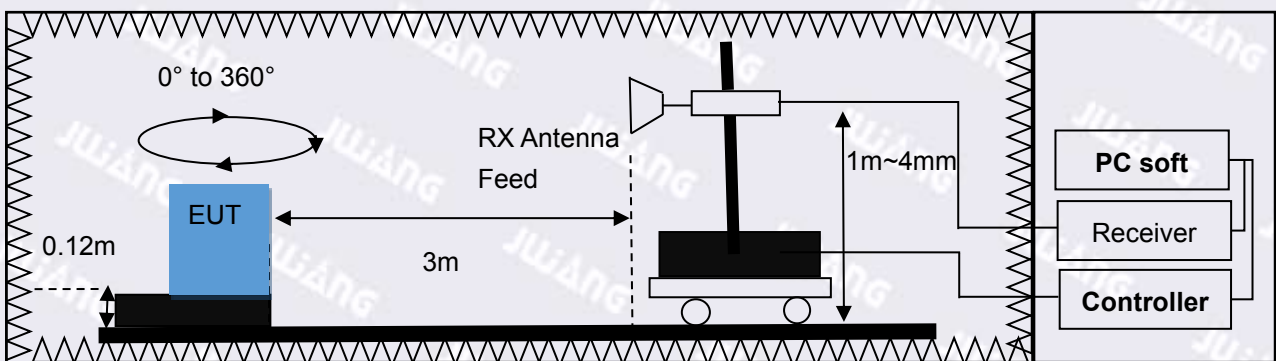
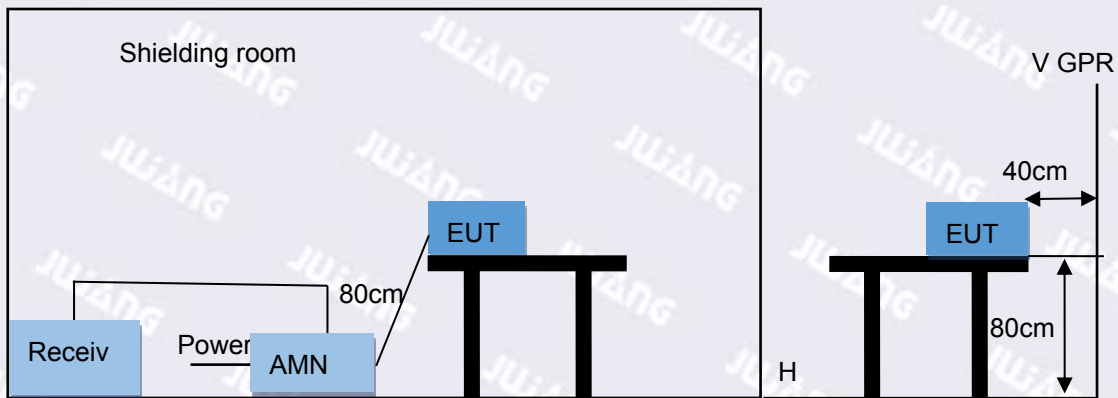

Figure 5-4 Test set-up of radiated disturbance(1000MHz-6000MHz)
Figure 5-5 Test set-up of conducted disturbance for power port
- b) The EUT was placed on the top of a table 0.8 meters above the ground at 3-meter SAC as figure 5-4 or 0.12m above the ground at 3-meter SAC as figure 5-5.